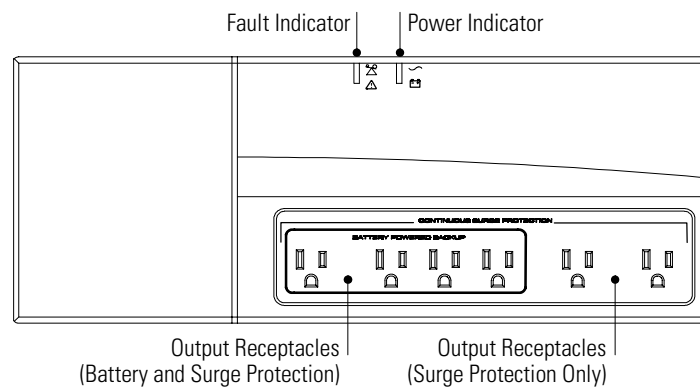
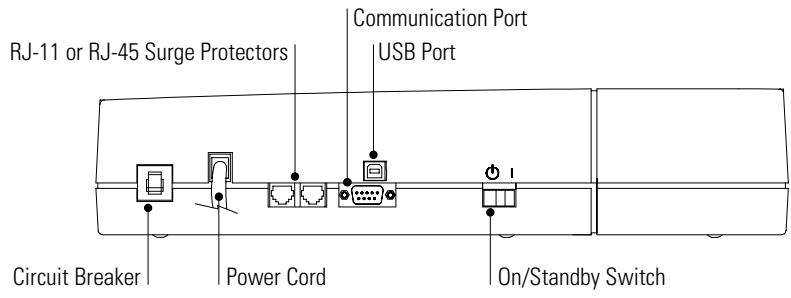
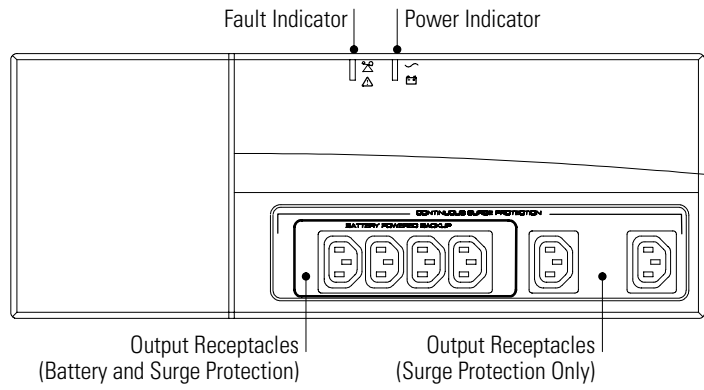
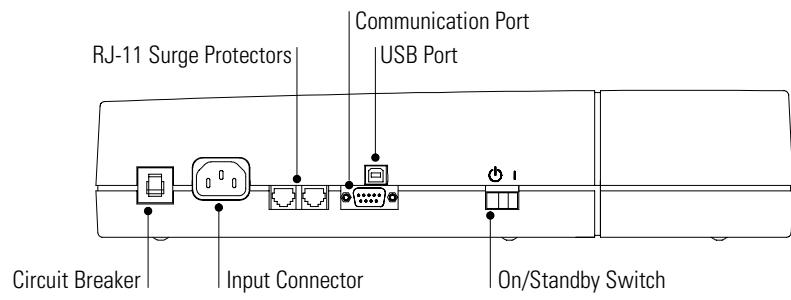

Figure 1. 120V Model Top Panel
Figure 2. 120V Model Side Panel
Figure 3. 230V Model Top Panel
Figure 4. 230V Model Side Panel
3. Start the UPS by pressing the | switch as shown in Figure 2 or Figure 4 on page 4. The ~ indicator illuminates indicating that power is available from the UPS output receptacles.
Figure 1 and Figure 2 identify features of the 120V (USA) models, with attached input line cord. Figure 3 and Figure 4 identify features of the 230V (European) models, which have a connector for the input line cord as well as IEC output receptacles.